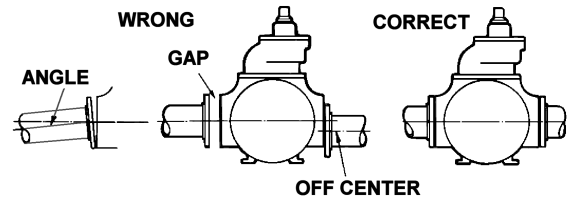

Figure 2
8. Check alignment of pipes to pump to avoid strains, which might later cause misalignment. See Figure 2. Unbolt flanges or break union joints. Pipes should not spring away or drop down. After pump has been in operation for a week or two, completely recheck alignment.